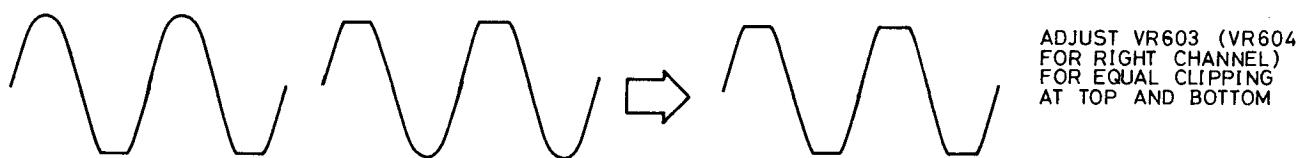
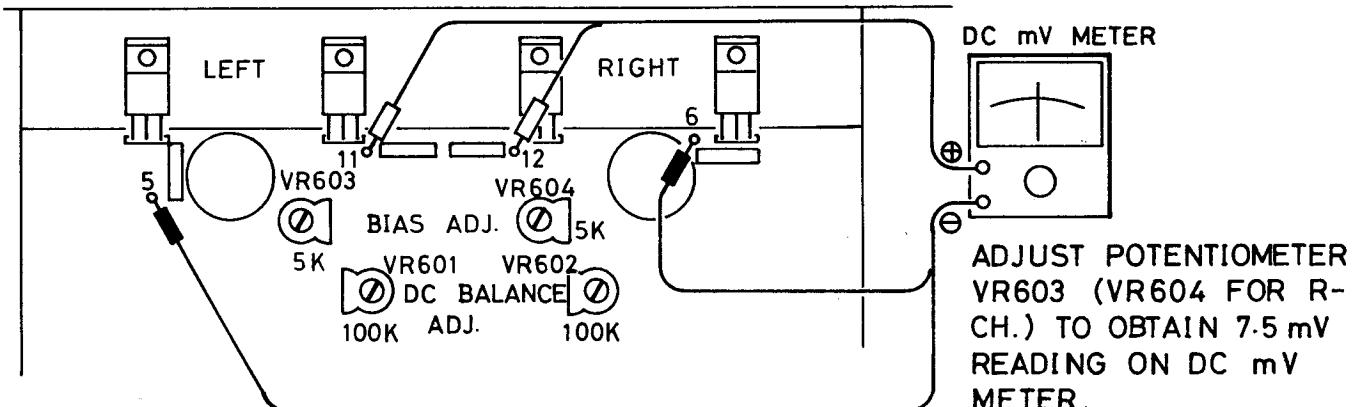

Figure 1. DC Balance Adjustment Waveforms
Figure 2. Bias (Idling Current) Adjustment Hook-up
4. Connect AC power cord and rotate Volume Control clockwise — full volume. Increase generator output until sine wave on scope just starts clipping. Adjust DC Balance Control VR601 (see Fig. 2) for equal clipping on the positive and negative half cycle of the signal. See Fig. 1.
2. Connect the plus lead of a DC milli-volt meter to pin No. 11 and the minus lead to pin No. 5 ... See Fig. 2.